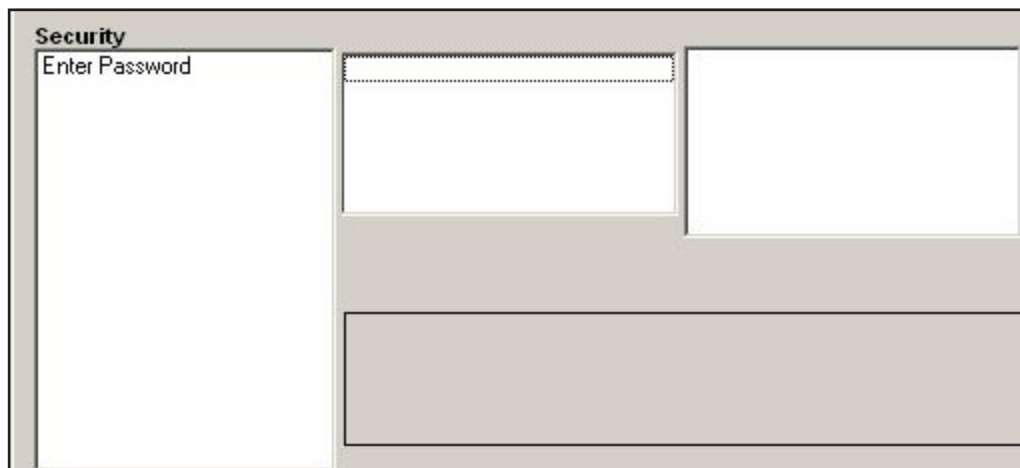

Figure 47: Password Window
2. If the system is locked, the window is similar to Figure 47 below.